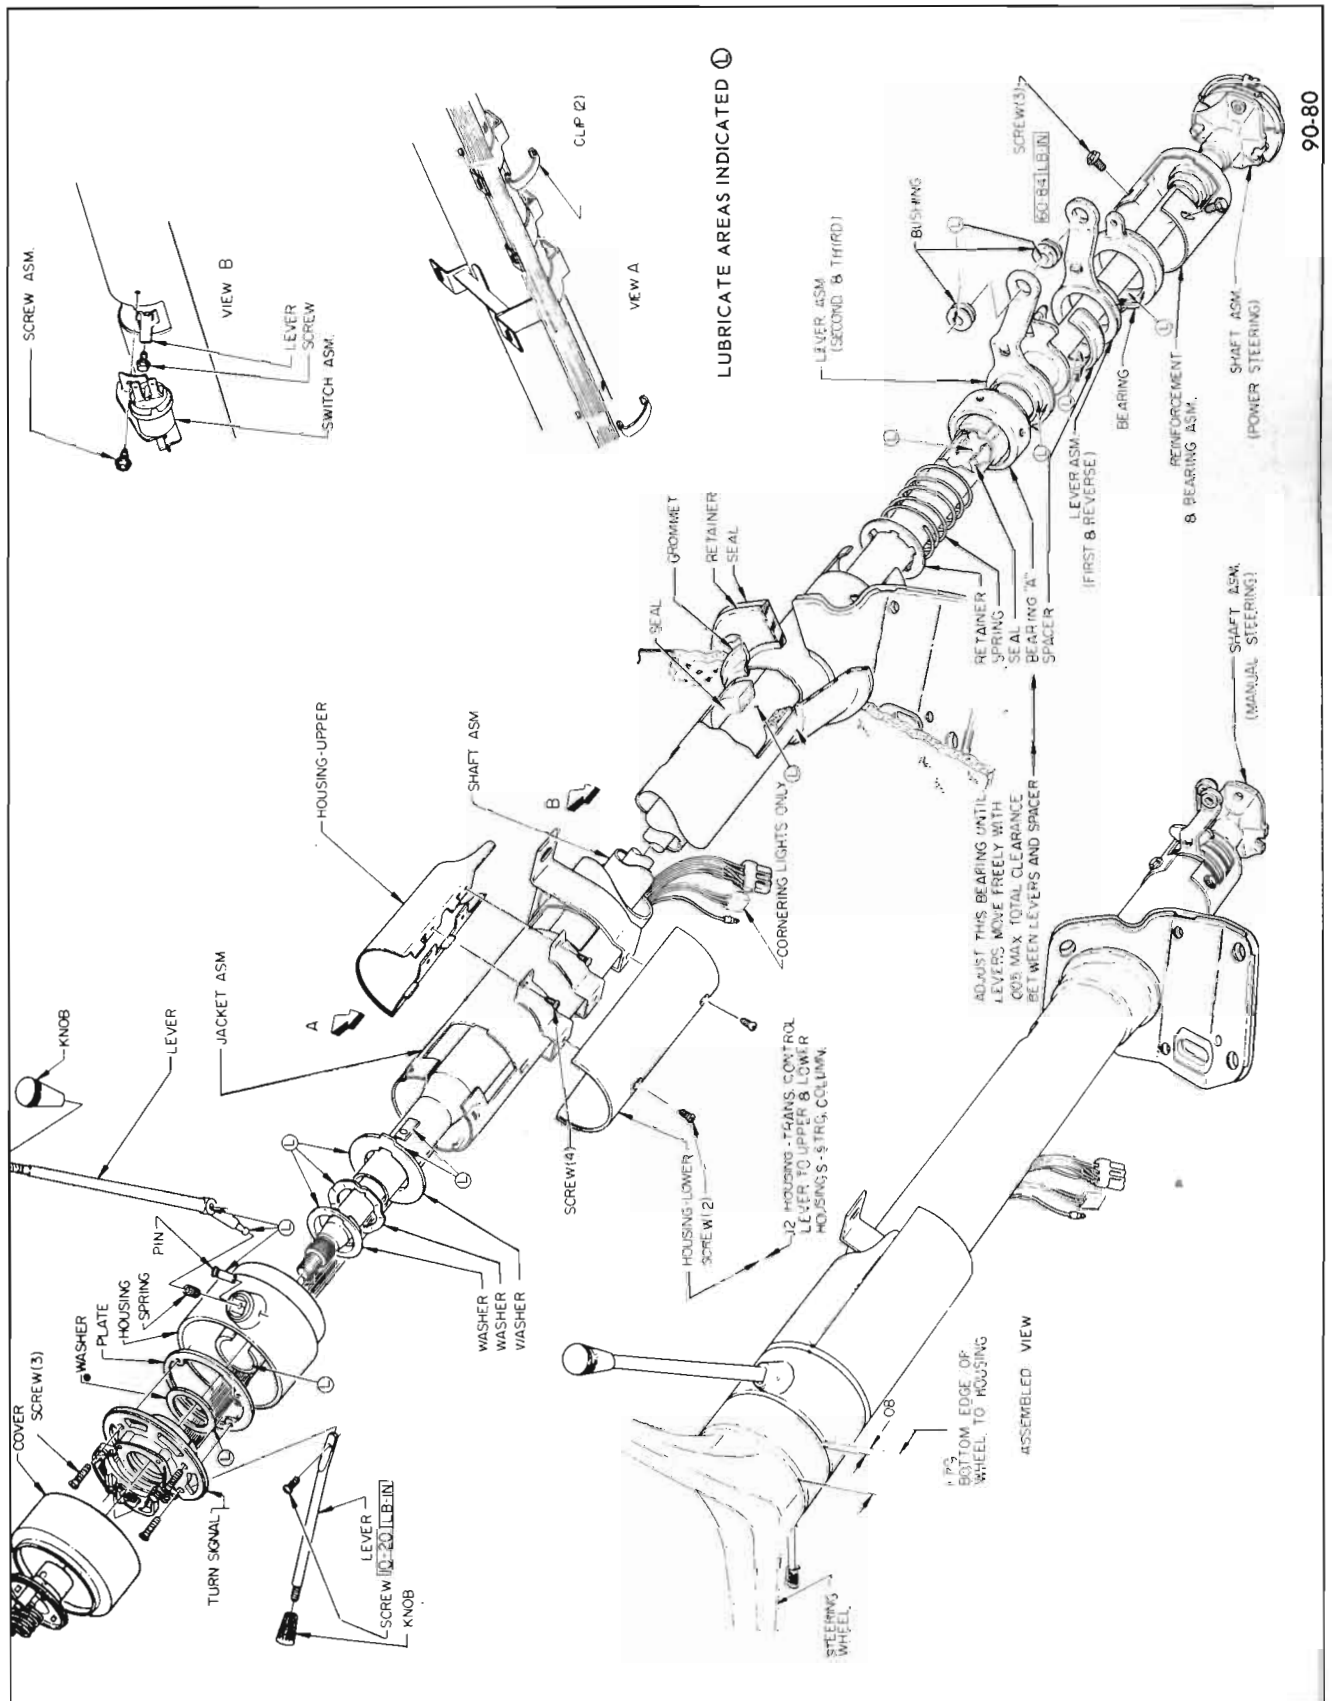

Figure 90-80—45-46000 Series - 3-Speed Manual Transmission Column
1. Twist steering column cover in a counterclockwise direction, and lift out turn signal control with upper bearing adapter and bearing assembly, cover, washer, and shift bowl (see Figure 90-80).
4. Remove screws securing ring assembly to mast jacket and pull out lower bearing, ring, lever, spacer, shift tube assembly with felt seal, and mast jacket (see Figures 90-80 and 90-81).